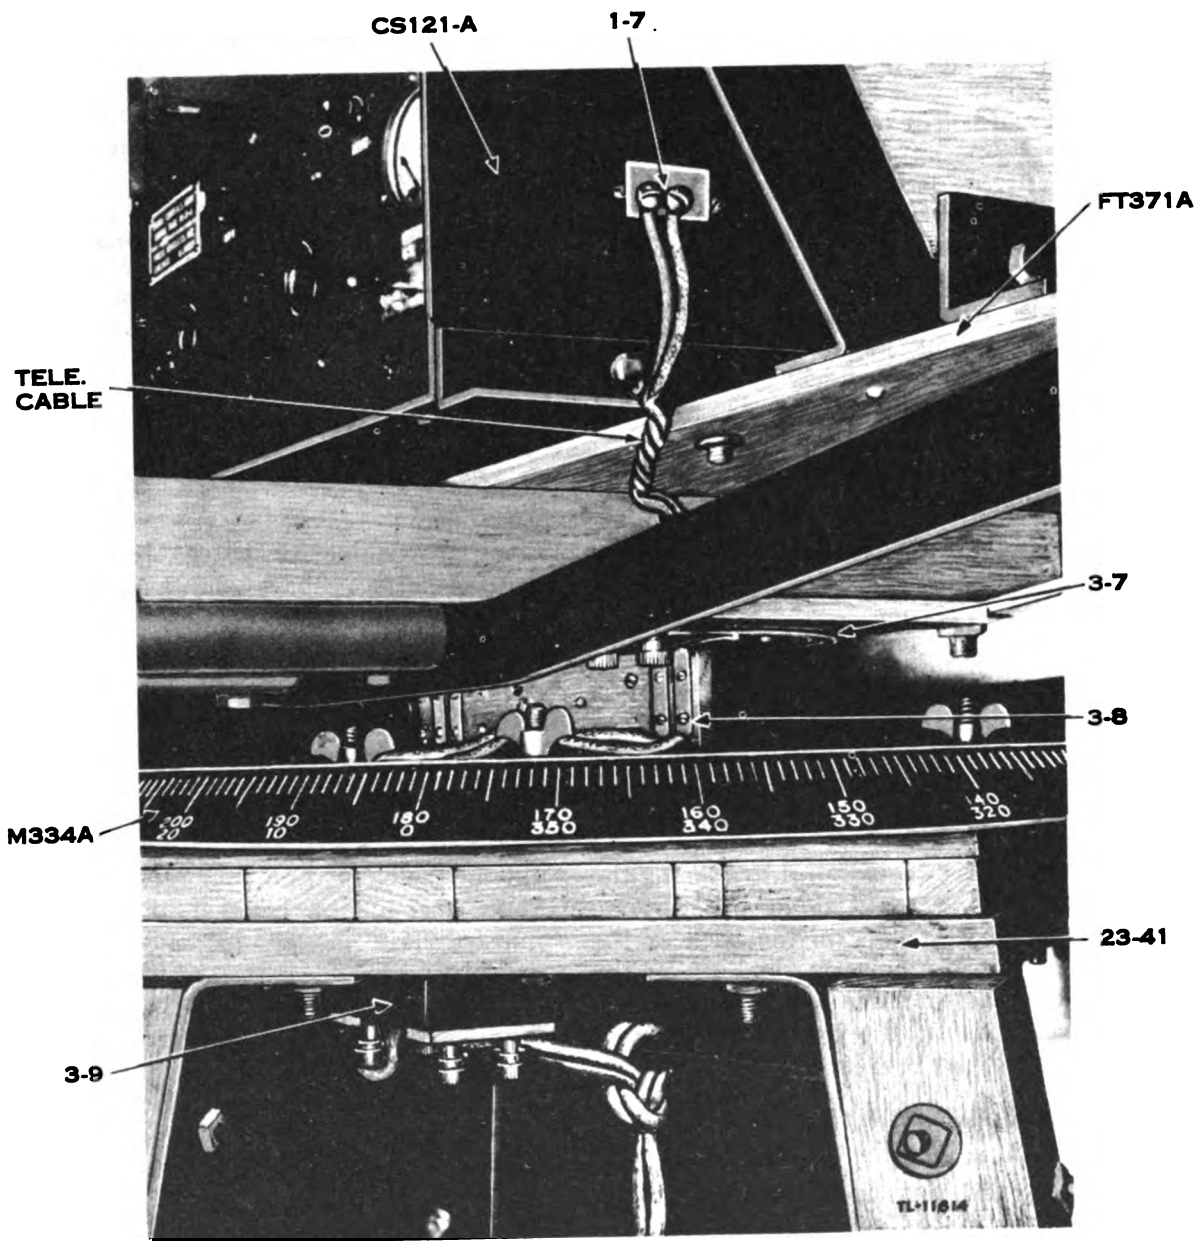

Figure 19. Central Unit Cabinet CS-121-A, showing telephone connection to central unit.
a. Connect the 30-inch telephone cable to the terminal strip 1-7 on the right front side of the Central Unit Cabinet CS-121-A, placing the lug ends under the binding screws (fig. 19).